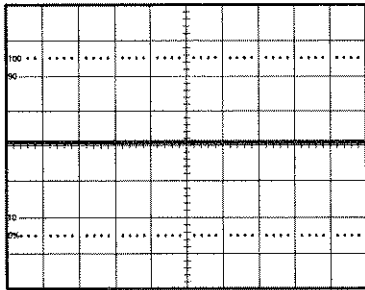

Figure 5: Functional Check Display 2
6. Set the **CH2 INV** button to the **IN (ON)** position.
9. Figure 5 shows a satisfactory display. The display should show a flat trace located on the center graticule: this confirms the channel balance and **ADD** offset functions.